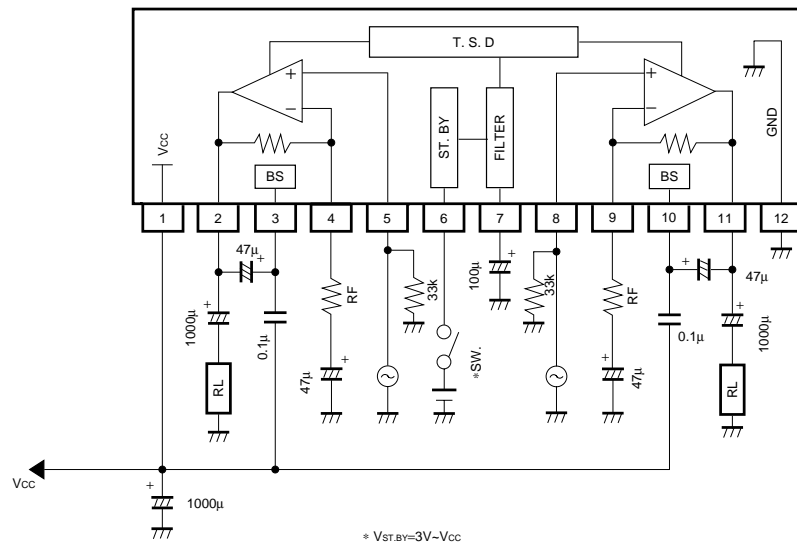

Fig.1
(10) Standard values for the DC voltages on each pin ($V_{CC}=12V$, $T_a=25^{\circ}C$, measurement circuit : Fig.1)